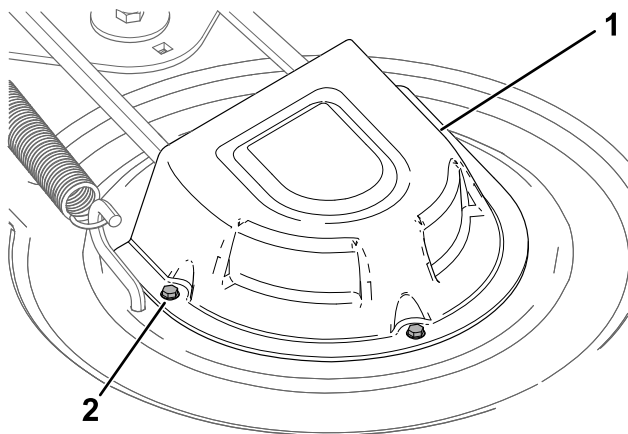

Figure 53
4. Loosen the screws and remove the pulley covers (Figure 53).